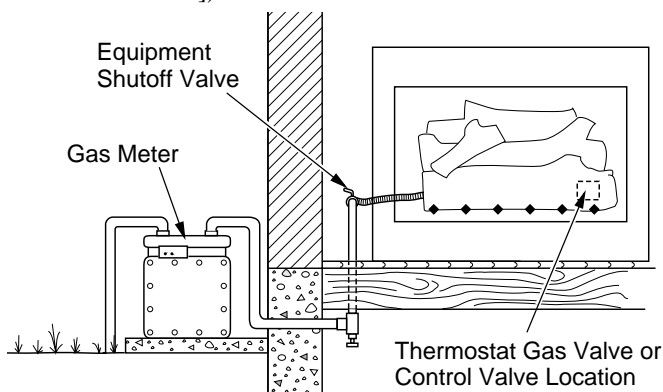

Figure 17 - Checking Gas Joints
3. Check all joints from gas meter to equipment shutoff valve (see Figure 17, page 13). Apply a noncorrosive leak detection fluid to gas joints. Bubbles forming show a leak.
4. Check all joints from equipment shutoff valve to control valve (see Figure 17). Apply a noncorrosive leak detection fluid to gas joints. Bubbles forming show a leak.